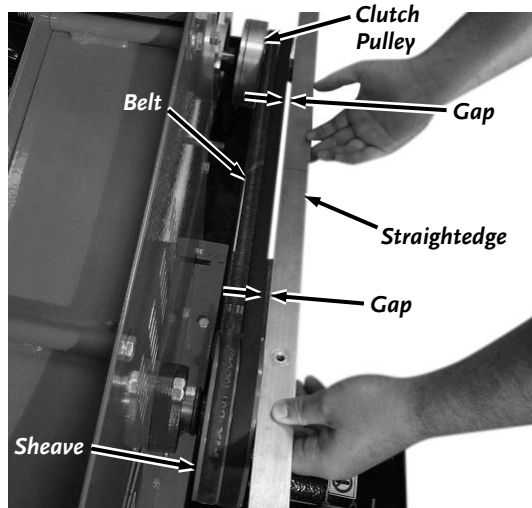

Figure 33
3. Check the alignment of the Clutch with the Sheave by placing a Straightedge flat across the Sheave outer surface and position the other end of the above (not touching) the face of the Clutch Pulley (**Figure 33**).